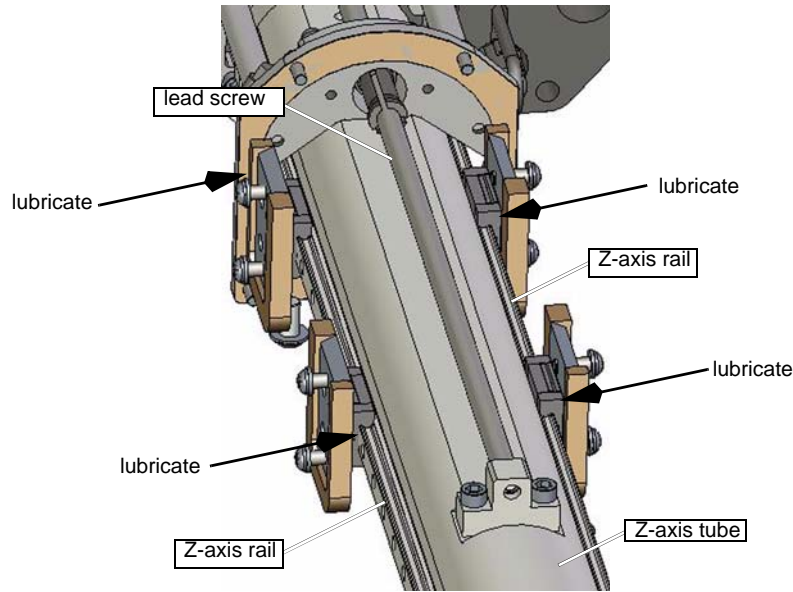

Figure 6-16: Z-axis Bearing Locations Requiring Lubrication
5. There are four bearings in the Z-axis housing that require lubrication using Jet-Lube's Arctic Grease - OMAX P/N 202335 (see Figure 6-16).